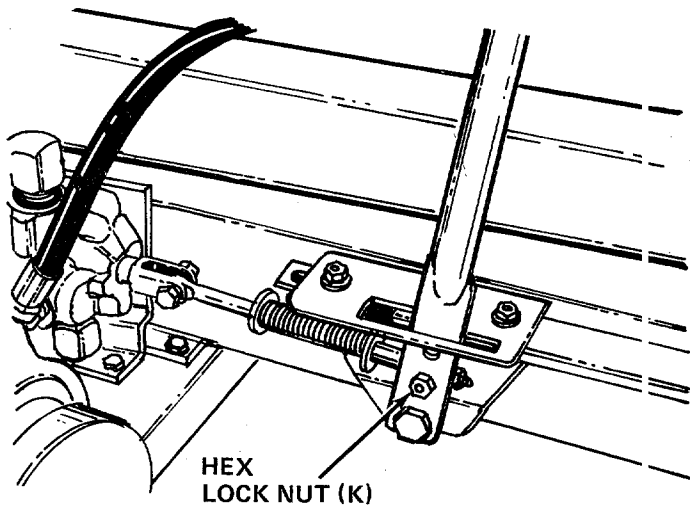

FIGURE 9
- Secure ferrule on engagement rod to engagement handle with hex lock nut (K). See figure 9.